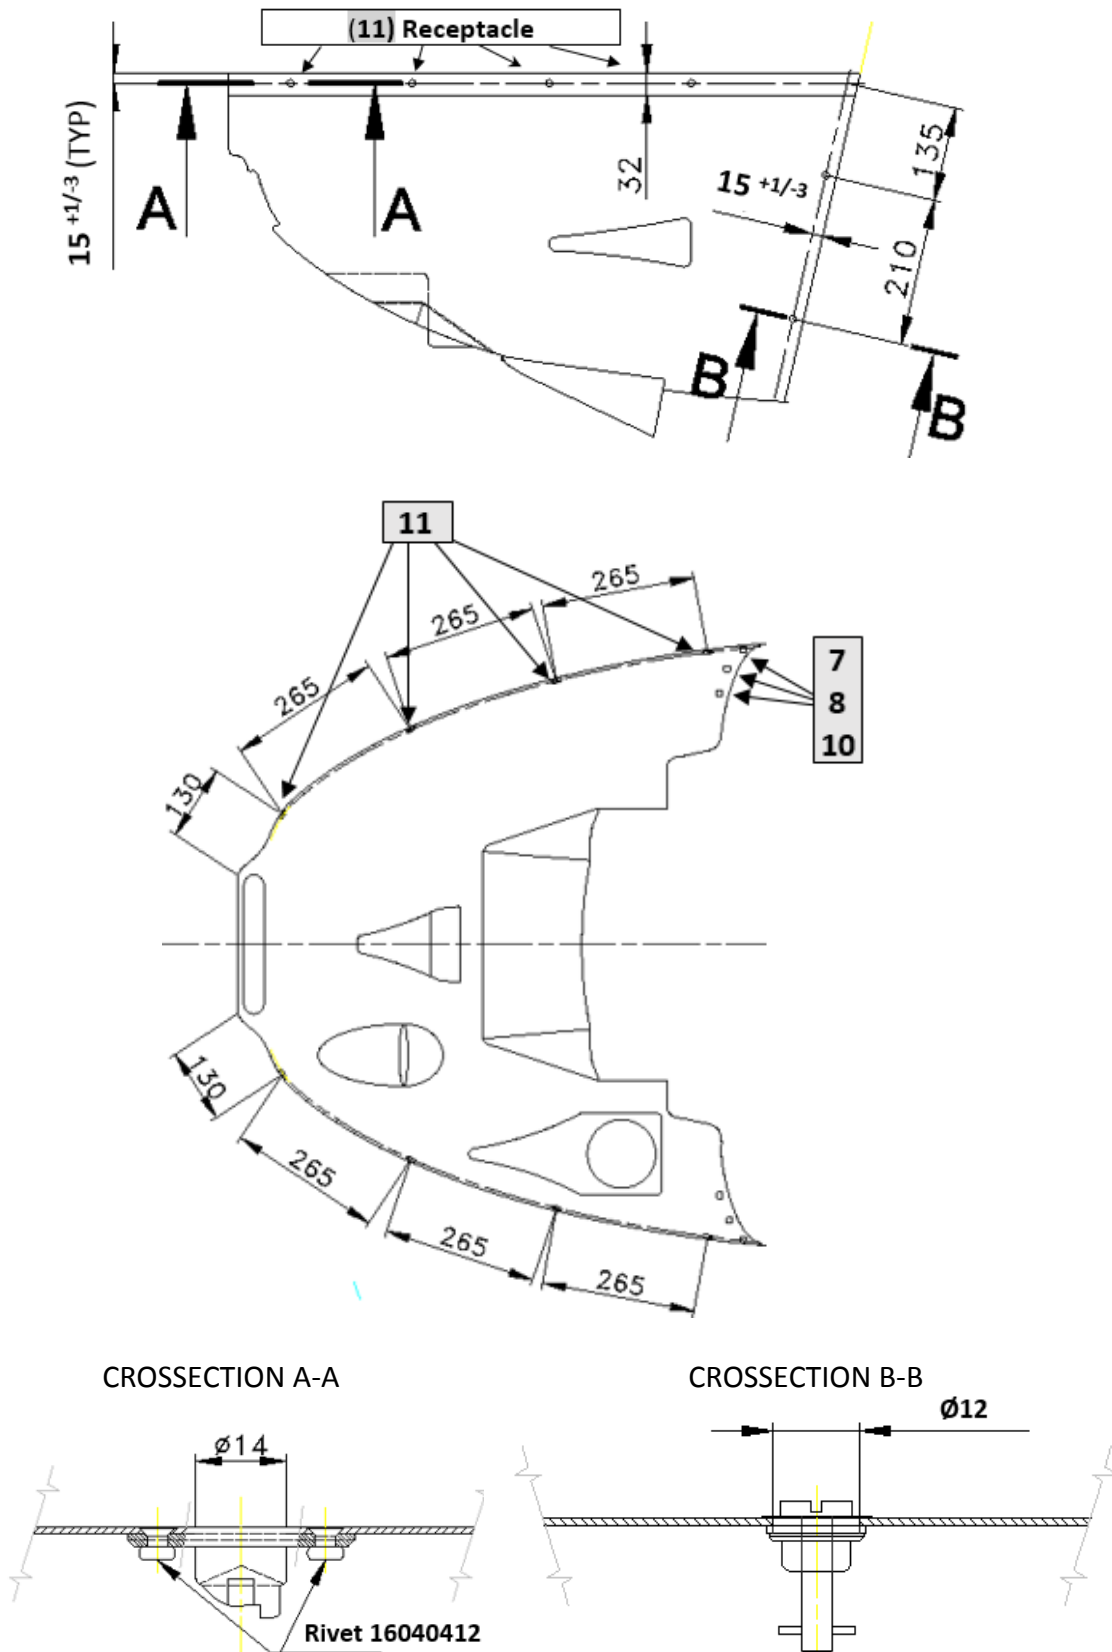
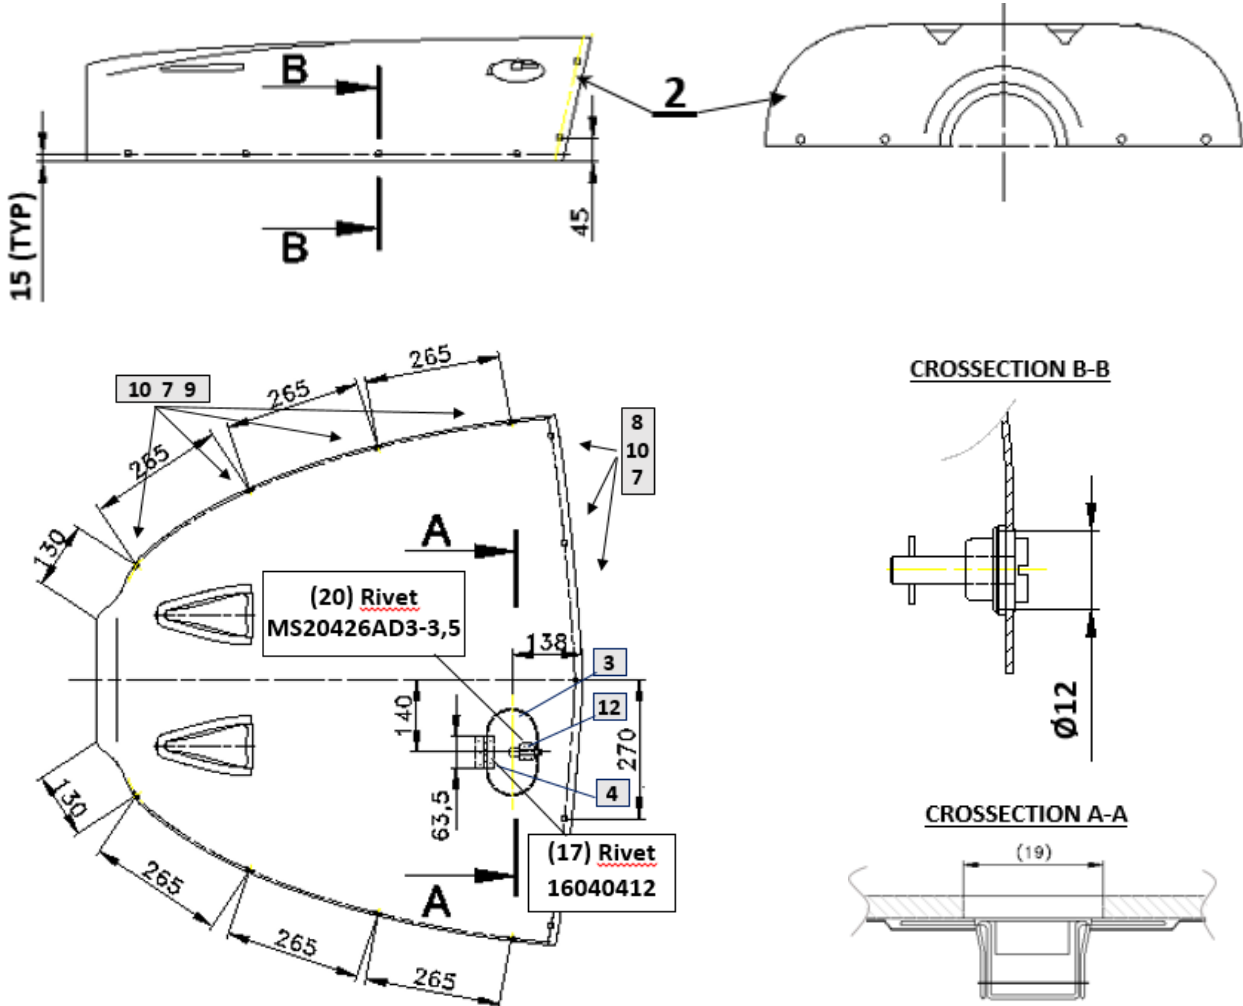
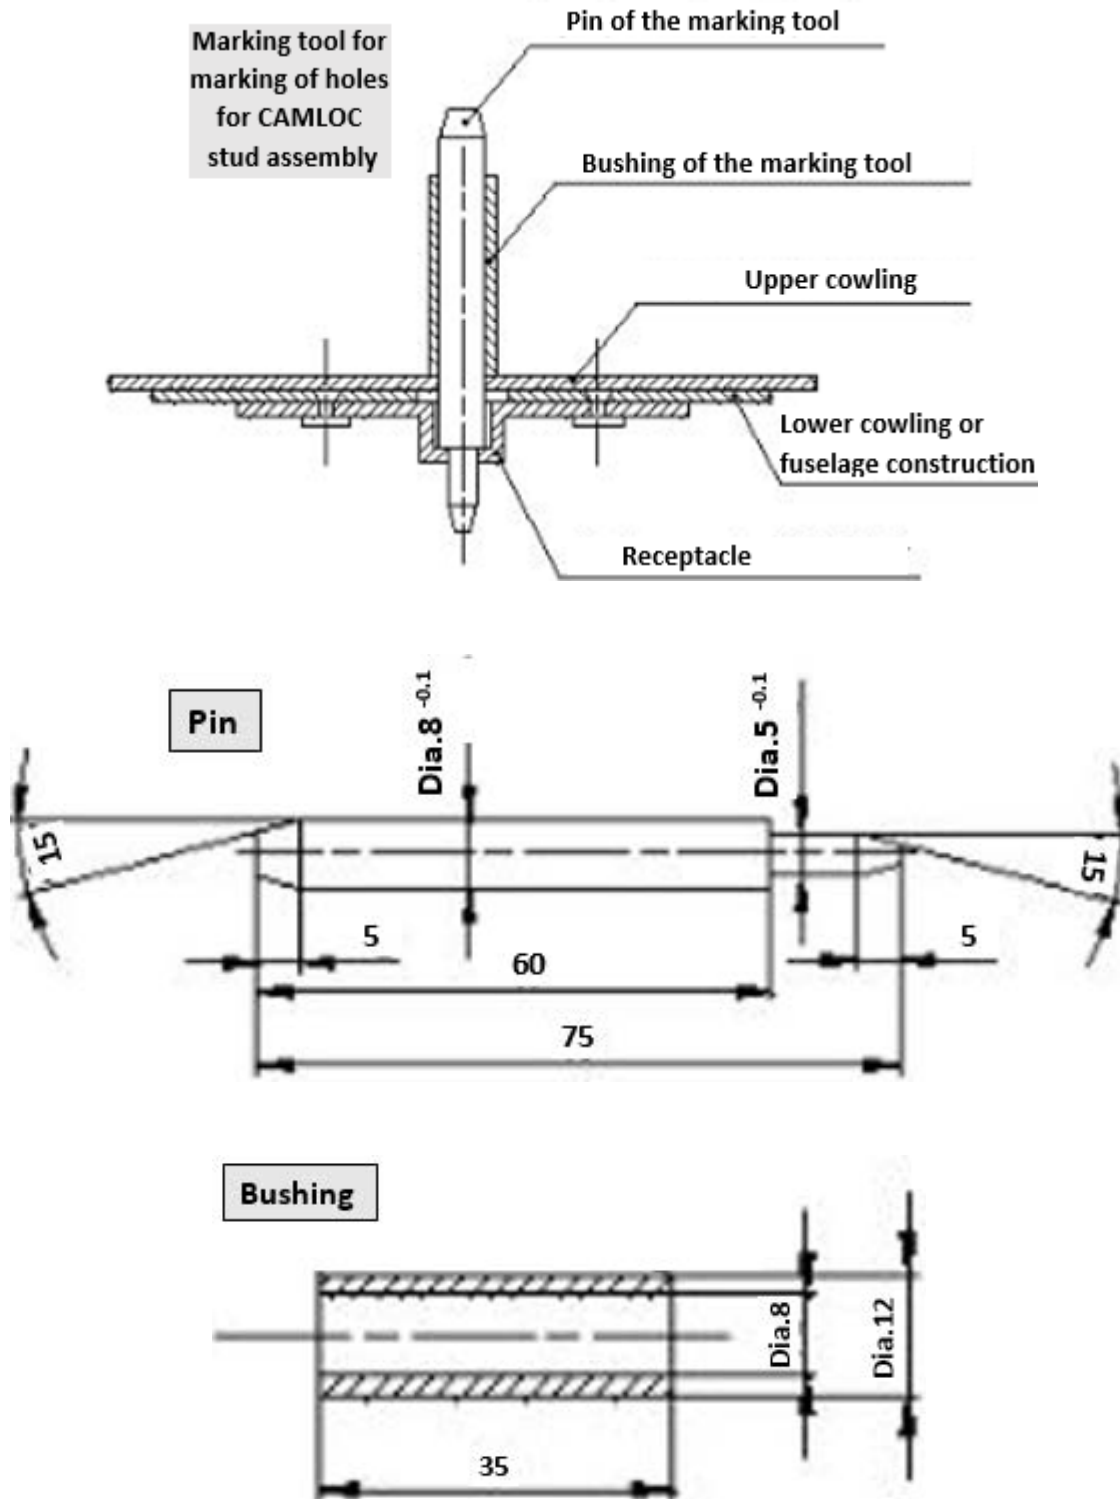
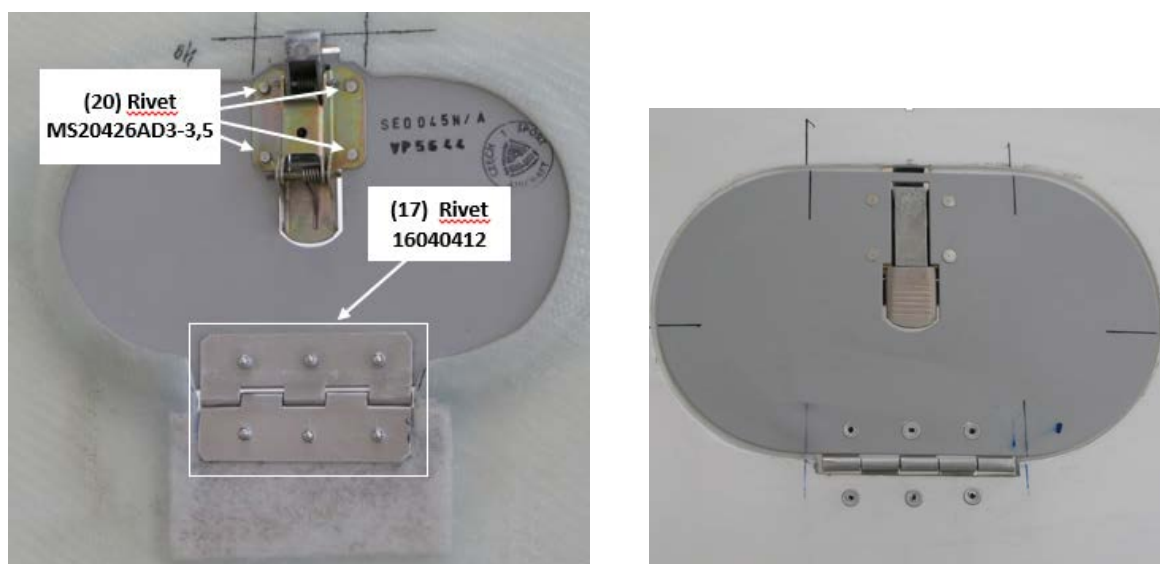

Figure 2: Engine lower cowling SE0562N
Figure 3: Engine upper cowling SE0556N
Figure 12: Marking tool for marking of holes for CAMLOC stud assembly
Figure 18: Mounting of Oil access cover assembly
10. Follow the helping points (see section 8) and, on the lower cowling, mark hole midpoints for CAMLOC stud assemblies which will fix the cowling to the fuselage. In the marks of the hole midpoints drill holes dia. 12 mm, see Figure 2, Figure 9, Figure 11, Figure 12.
12. Set the lower cowling on the fuselage and attach it on the fuselage with help of CAMLOC lockers; do not install retaining rings on the CAMLOC grommets, see Figure 2.
14. Upper cowling: - mark 8 hole midpoints for CAMLOC stud assemblies fixing the upper cowling to the lower one, see Figure 3 and Figure 15. Pre-drill 8 x dia.2,5 mm holes in the marked points. Deburr the holes.
16. Upper cowling: - use the helping points (section 8) and mark hole midpoints for CAMLOC stud assemblies fixing the cowling to the fuselage and drill holes dia.12 mm according to instructions in section 10. See also Figure 3, Figure 9, Figure 11, Figure 12.
17. Lower cowling: - redrill the holes dia.2,5 mm (section 15) to holes dia.14 mm. Set receptacles in these holes and drill the holes for receptacle rivets. Deburr and countersink the holes. Rivet the receptacles on the lower cowling, see Figure 2.
- Attach the upper cowling on the fuselage with help of CAMLOC lockers, do not install retaining rings on the CAMLOC grommets, see Figure 3.
19. Redrill the holes dia.2,5 mm made in the upper cowling (section 14) to holes dia.12 mm, see Figure 3 and Figure 12.
In order to work the CAMLOC lockers correctly, the holes of receptacles riveted on the lower cowling must be concentric with the corresponding holes dia.12 mm of CAMLOC stud assemblies installed in the upper cowling. Therefore it is recommended to make the holes dia.12 mm step by step (with use of marking tool – see Figure 12) as follows:
23. Oil access cover assembly: On the piano hinge – mark hole midpoints and drill 6 x dia.3,3 mm holes for rivets, deburr the holes. Match the hinge and the lever lock with the oil access cover and, according to the holes in the piano hinge, drill 3 x dia.3,3 mm holes in the cover. Deburr the holes, use cleco fasteners and fix the piano hinge and the lever lock on the cover. Set this assembly on the upper cowling and, according to the holes in the piano hinge, drill 3 x dia.3,3 mm holes in the upper cowling. Countersink and deburr the holes, see Figure 3, Figure 18.
24. Countersink the rivet holes in the cover. Rivet the piano hinge and the lever lock to the cover. Set and rivet this assembly to the upper cowling. See Figure 3, Figure 18.
30. Install the upper cowling on the lower cowling and the fuselage (do not install the retaining rings on the CAMLOC grommets) and perform inspection of correct matching of the cowlings and the fuselage. Remove the cowlings from the fuselage. Remove also all CAMLOC stud assemblies with grommets from the cowlings, see Figure 2, Figure 3.
32. Install the CAMLOC stud assemblies including retaining rings on both cowlings, see Figure 2, Figure 3.